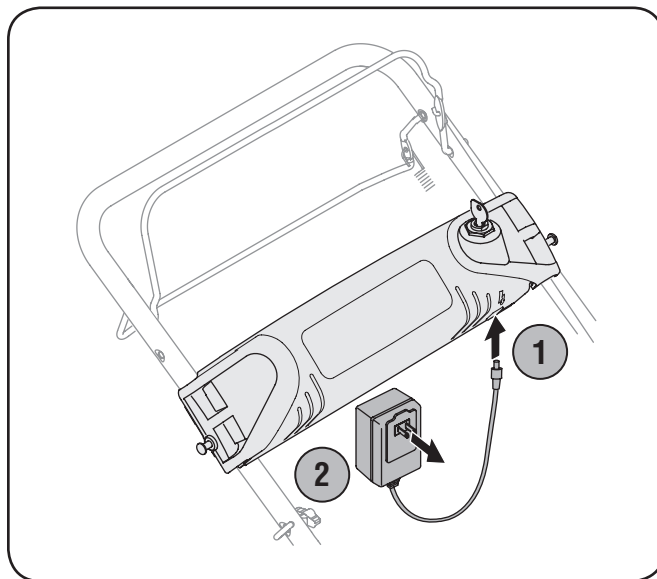

Figure 7-6
1. Plug the battery charger into the port on the underside of the battery housing. See Figure 7-6.